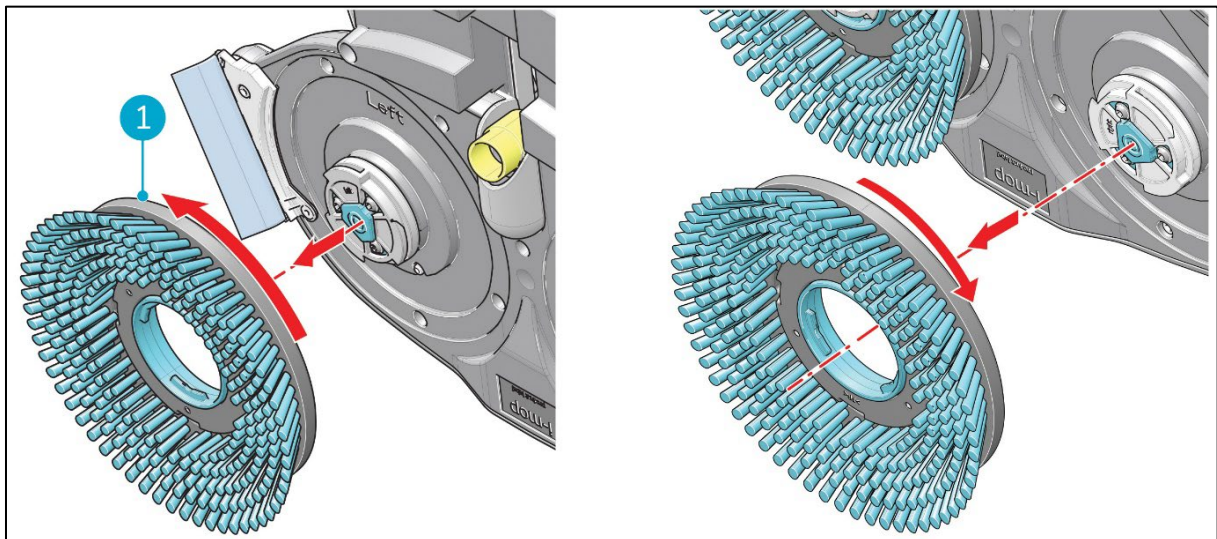

Figure 31
3. Using your other hand to turn the left brush (Figure 31, pos 1) anticlockwise until you feel resistance or see the motor disk turning as well.